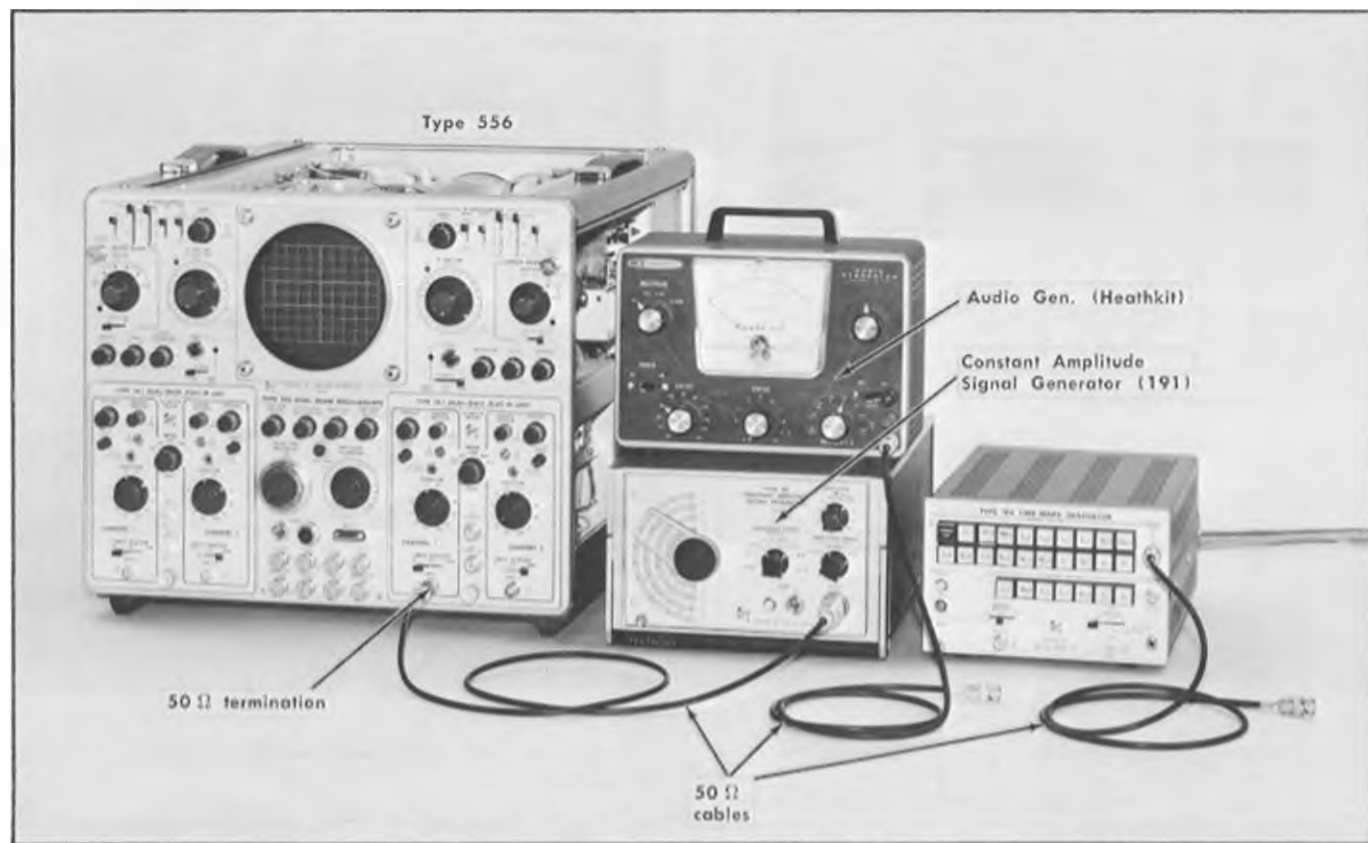

Fig. 6-31. Test setup for checking internal trigger.
- a. The test equipment setup is shown in Fig. 6-31.